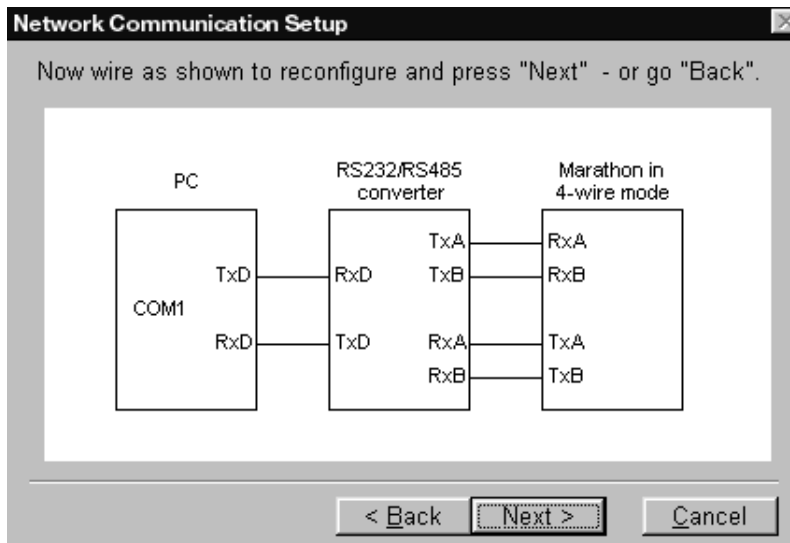

Figure 3-8: 4-Wire Wiring Diagram
4. Select the mode that your sensor is currently set to. If you are running this program for the first time, it will be Standalone. (If unsure, select Multidrop.) If you select Standalone, the program will display a screen similar to Figure 3-8. Please proceed to Step 5.
5. If you selected “4-wire multidrop mode,” you are shown a wiring diagram to verify the attached sensor is wired correctly (Figure 3-8). If this is correct, click Next.